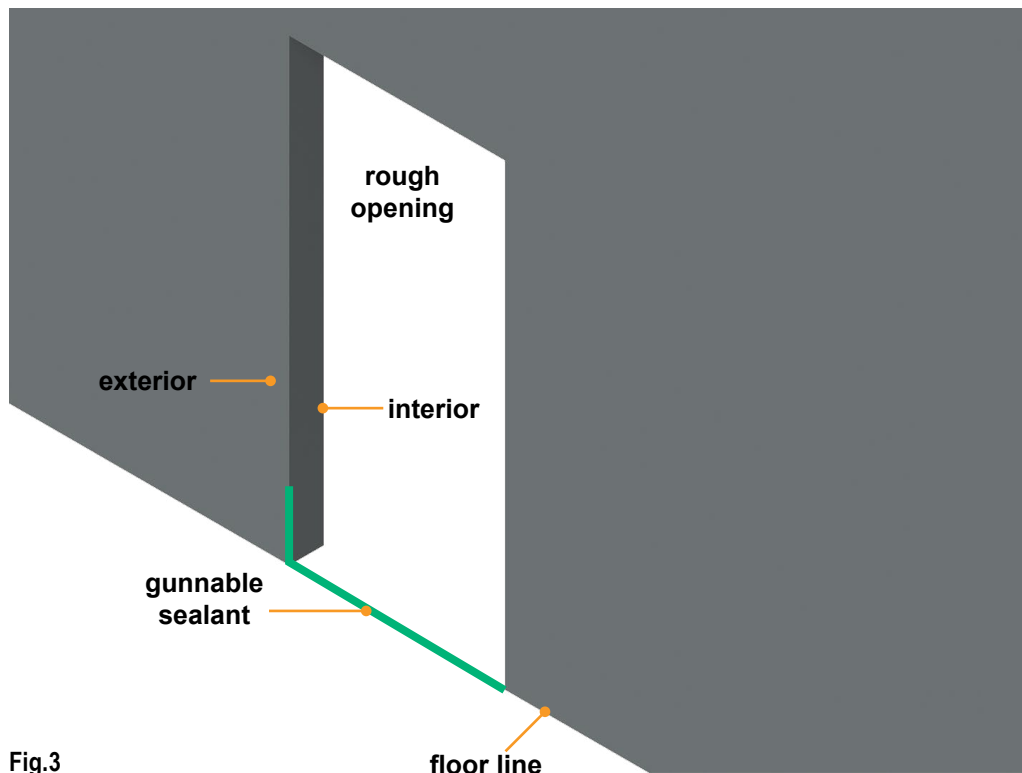

Fig.3
4. Just prior to installation, apply gunnable sealant (**Fig.3**) on the floor so the outside edges of the sill will be sealed to the floor and extending about 6" up the frame/jamb (**Fig.3**).